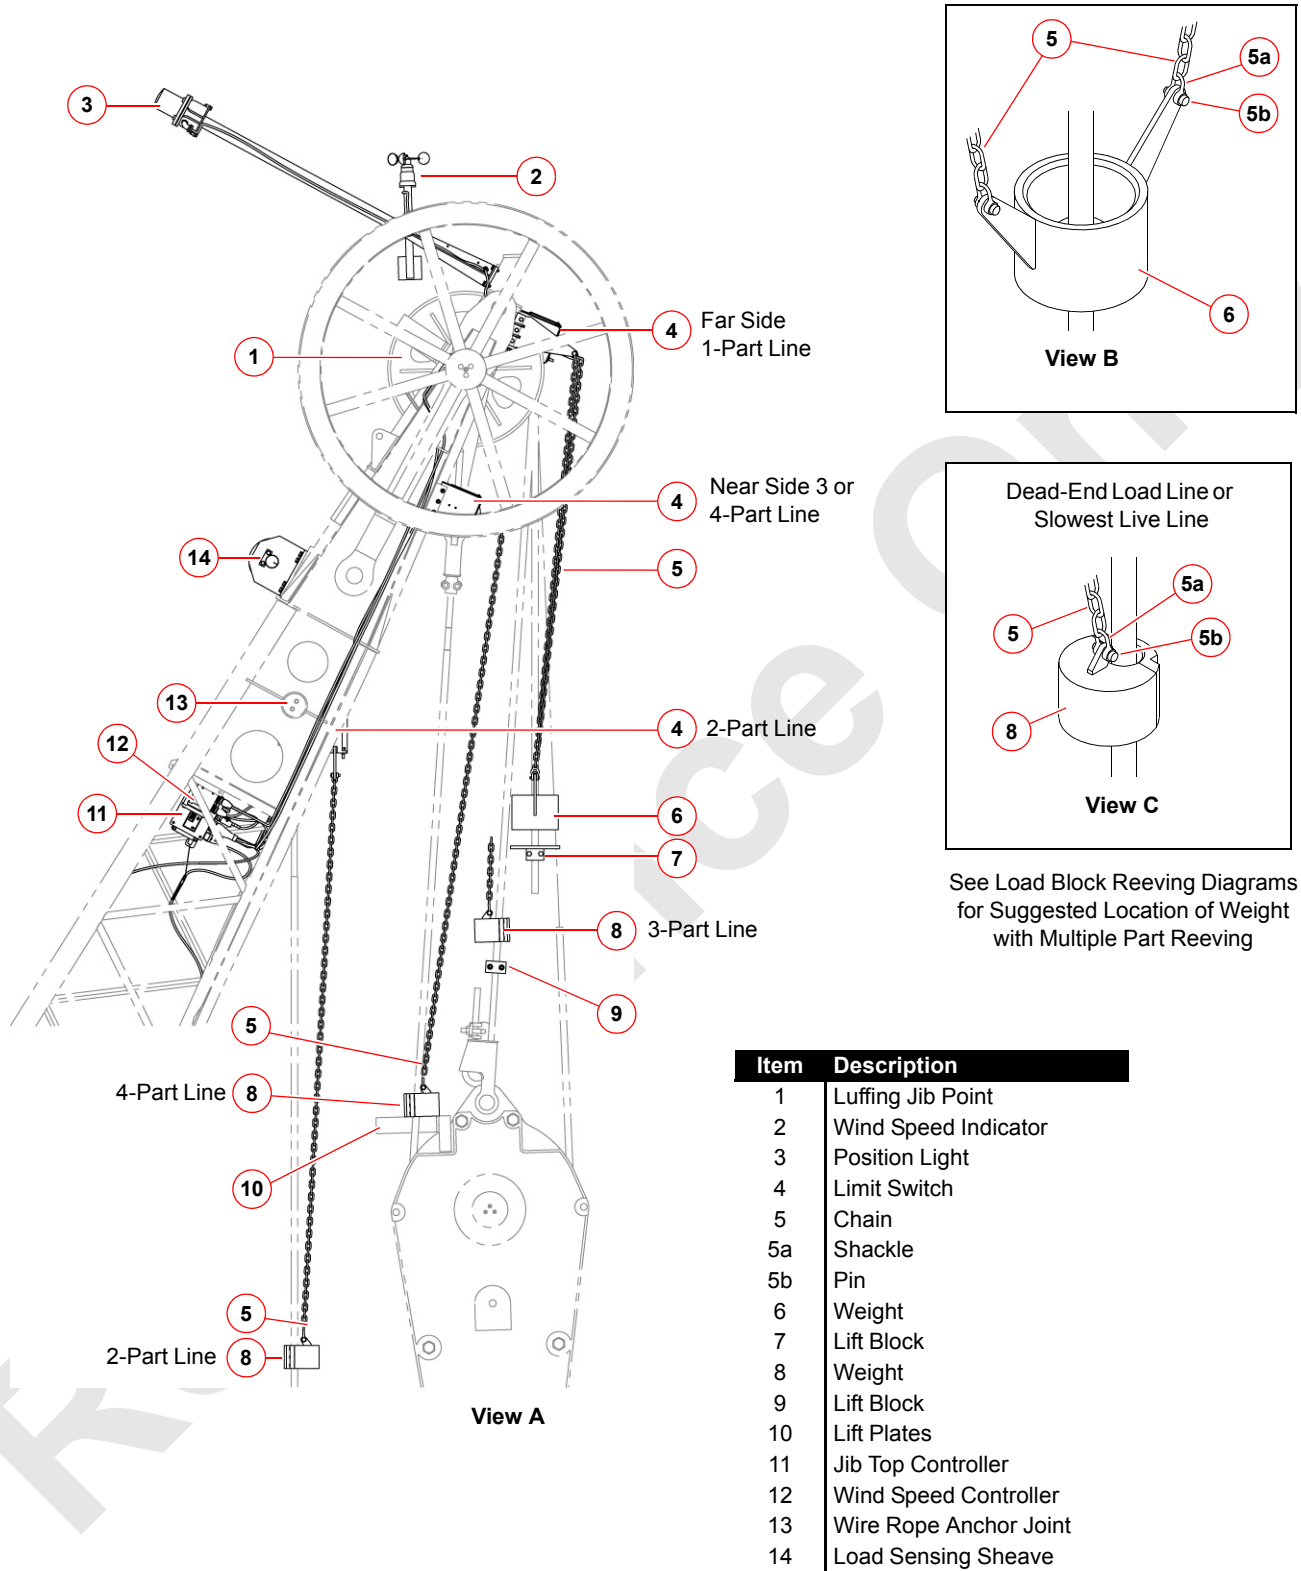

FIGURE 6-7
The block-up limit system consists of the following components (Figure 6-7):
- b. Inspect each weight (Figure 6-7) for freedom of movement on the load line.
- c. Inspect each weight, each chain, each shackle, and each connecting pin (Figure 6-7) for excessive or abnormal wear. Make certain cotter pins for shackles are installed and spread.